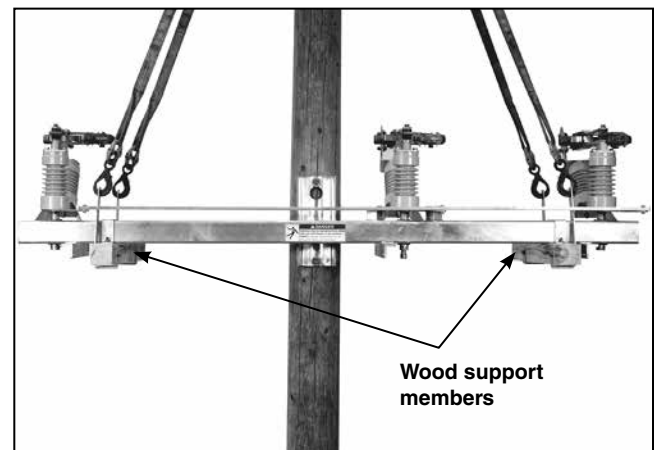

Figure 11. Remove the wood support members.
- STEP 9.** Remove the wood support members, lifting straps, and banding straps provided to facilitate hoisting of the switch. See Figure 11.